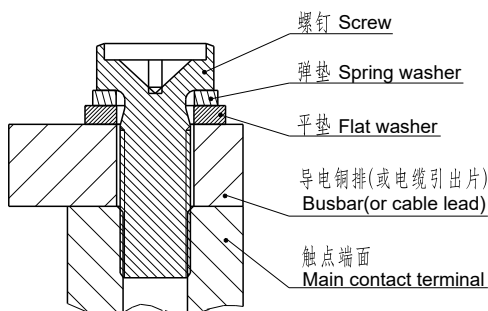

图1(Fig1)
9.当产品使用1个及多个导电铜排连接时,请确保导电铜排与触点端面紧密贴合(多个铜排需确保大电流的导电铜排最贴近触点端面,小电流的导电铜排其次),然后是平垫圈、弹簧垫圈、螺钉。不正确的连接顺序可能造成严重过热,参考下图1:
When the product is connected with one or more conductive copper bars, please ensure that the conductive busbars closely fit the contact terminal surface (The conductive copper bars with high current must be closest to the contact terminal surface if there are multiple copper bars and then conductive busbars with low current), followed by flat washers, spring washers and screws. Incorrect connection sequence perhaps give rise to severe overheating. Refer to Figure 1 as follows: